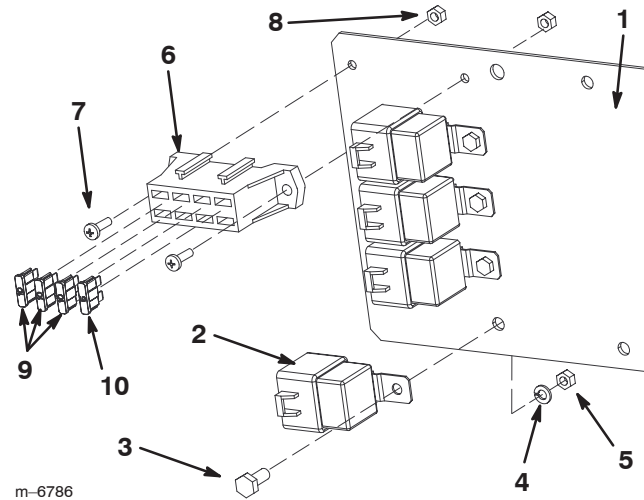

Figure 3
1. Secure 4 relays to the mount plate (Fig. 3), using 4 bolts (1/4 x 5/8 inch), 4 lock washers (1/4 inch), and 4 nuts (1/4 inch).
2. Secure the fuse block end of the wiring harness to the mounting plate (Fig. 3), using 2 screws (#10) and 2 nuts (#10).
5. Ensure that the 3, 10-amp fuses and 1, 5-amp fuse are installed in the fuse block on the mount plate as illustrated in Figure 3.